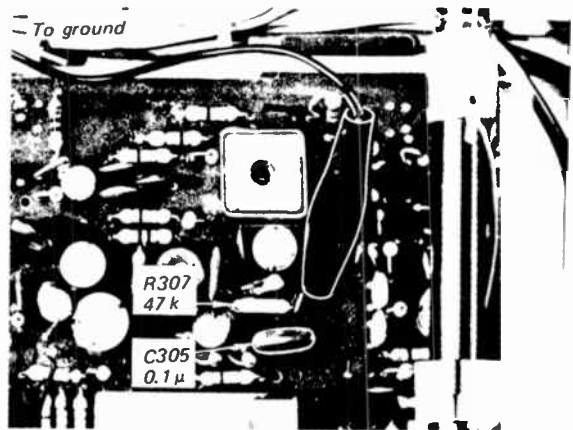

Fig. 3-9. Interruption of AFC circuit
4. Short the connection point of R307 and C305 (AFC circuit) to ground as shown in Fig. 3-9.
3. Short the connection point of R307 and C305 (AFC circuit) to ground as shown in Fig. 3-9.